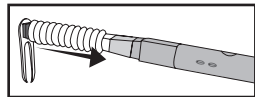

Figure 6.1; Install Blind Mount
Install the VERTICAL BLIND MOUNT (C) on the E-Wand by sliding the clear plastic bellows over the ATTACHMENT HOOK (a) until it fits snugly on the E-Wand frame [Fig. 6.1]. Install the mount so that the sensor switches will be facing the inside of the room.